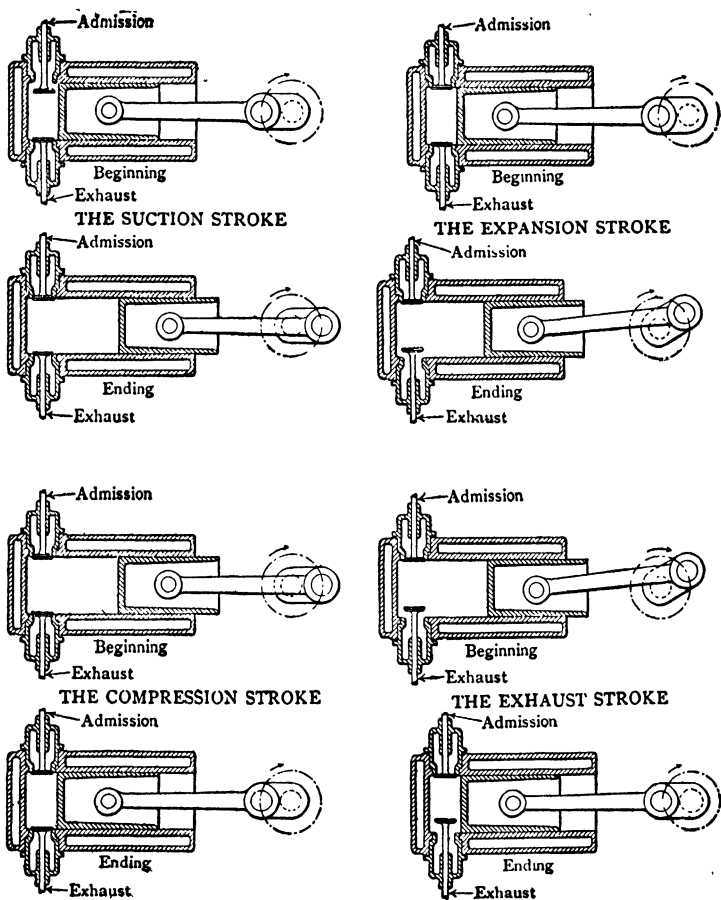

FIG. 77.—The four-cycle gas engine.
**The Four-Cycle Engine.**—The operation of the four-cycle engine is shown in Fig. 77. It will be noted that the intake and exhaust ports are opened and closed by tight-fitting valves instead of by the movement of the piston over them. Starting with the suction, or charging stroke, the intake valve opens and the piston moving toward the open end of the cylinder draws in a charge of gas and air from the carburetor. At the end of the stroke the intake valve closes and the piston moving backward compresses the explosive mixture to small volume. At the point of maximum compression a spark across the terminals of the spark plug ignites the mixture and the piston is forced outward. Just before the end of the expansion stroke the exhaust valve is lifted and as the piston moves backward the burnt gases are swept from the cylinder. At the end of the stroke the exhaust valve closes and the cycle of changes is repeated; thus there is but one power stroke for two revolutions and to carry the piston through the idle strokes a heavy flywheel is required.